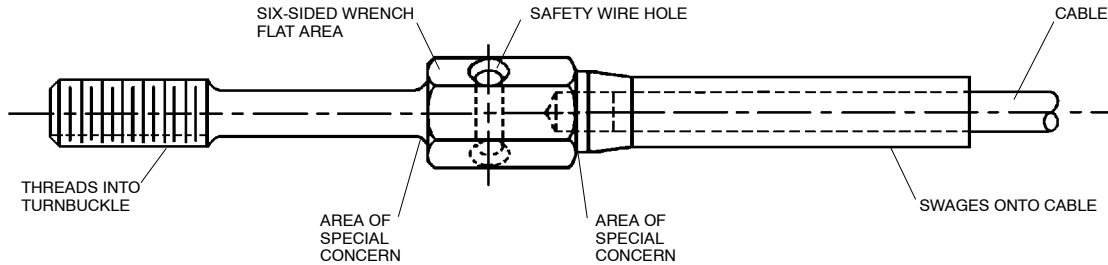

Figure 1 Areas of Special Concern
- (1) All flight control cable terminal ends are inspected for corrosion pitting and cracking. Areas of particular concern are change of cross section locations (Ref Fig 1).